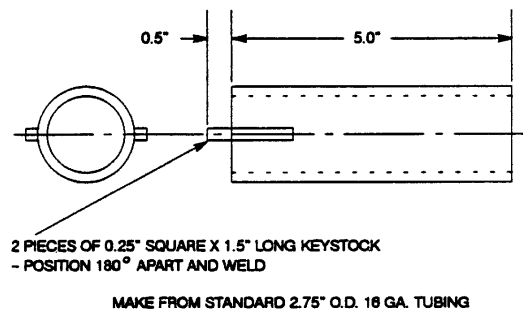

Figure 4. Impeller Locknut Tool
A tool for removing the lock nut (57) may be fabricated as shown in Figure 4.